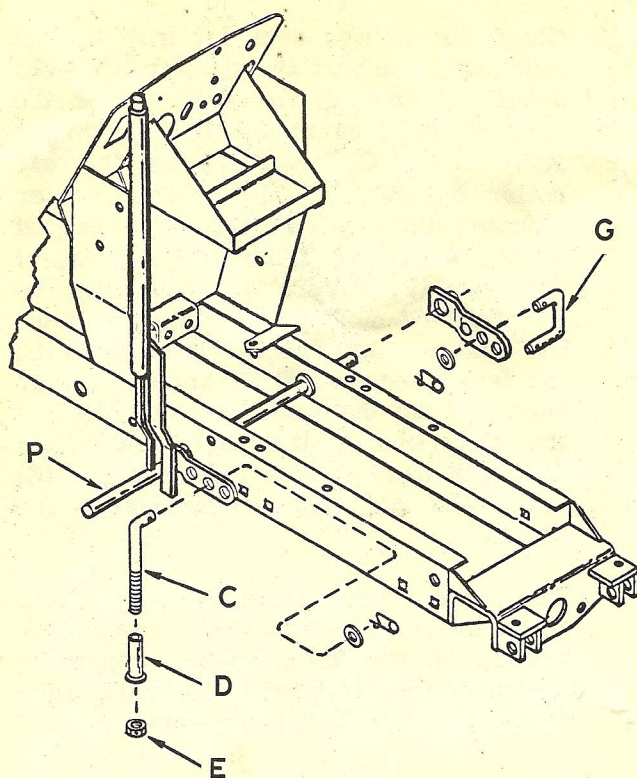
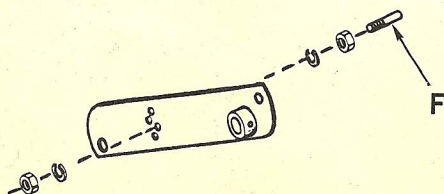

Figure 3. Lift Lever Linkage
Figure 4. Roller Height Adjustment Stop
4. For shipping purposes the "L" shaped, right hand hanger link (C, Figure 3) is installed with the drilled end through the mower deck attaching bracket. Remove this rod, insert the shoulder bushing (D) up through the slotted hole in same deck attaching bracket and place the threaded end of the rod down through the bushing. Turn the lock nut (E) part way on to hold the rod in position until further adjusted as covered in paragraph 12.
5. The roller adjustment stop pin (F, Figure 4) is factory installed in the second from the bottom hole of the left roller pivot arm. This location provides roller to ground engagement for mowing height up to two inches. If a different maximum cutting height adjustment is desired, refer to paragraph 4 under "Adjustments" for proper mounting hole and relocate the stop rod accordingly. Refer to "Adjustments" for further explanation on the roller adjustment stop pin.
7. Connect the "L" shaped and "U" shaped hanger links (C and G, Figure 3) to the center holes in the tractor lift lever arms and secure with plain washers and safety pins furnished.
11. Check the belt tension on either side, midway between the idler pulleys and deck pulley. Recommended tension is approximately 5 pounds at $3/8$ " deflection. Turn the adjusting nut (M) further on or off the adjusting rod as necessary to obtain proper belt tension.
12. Check the mower deck for side to side levelness. Adjust the tractor lift lever J-bolt by turning the wing nut so the deck is being carried on the two hanger links (C and G, Figure 3) and the rear roller assembly. The inboard center mounted anti-scalp roller should be just off the floor, and the roller adjustment stop pin (F, Figure 4) should not be touching the deck plate. Then measure the distance between the left end of the lift lever cross shaft (P) and the mower deck. Take the same measurement at the right end of the shaft, and adjust the right hand hanger link lock nut (E) until both rod end measurements are identical.
4. Roller Adjustments (Cont'd). Although four hole settings are provided for the stop pin (F, Figure 4), only the upper three are used for normal mowing conditions. The factory setting at the second from the bottom hole will provide roller ground contact at most commonly used lawn mowing heights and also provide adequate ground clearance while in the transport position. The bottom hole setting is not intended to be used on mowers mounted on the Model 195 Compact Tractor.
2. Deck "Level" - Side to Side. To check for side to side levelness, the mower deck must be set at normal cutting height and be fully supported by the two hanger links (C and G, Figure 3) and the rear roller assembly. The inboard center mounted anti-scalp roller should be just off the floor, and the roller adjustment stop pin (F, Figure 4) should not be touching the deck plate. Then measure the distance between the left end of the lift lever cross shaft (P, Figure 3) and the mower deck. Take the same measurement at the right end of the shaft and adjust the right hand hanger link lock nut (E) until both rod end measurements are identical.
4. Roller Adjustments. There are four mounting holes in the left roller pivot arm. The roller adjustment stop pin is installed in the second from the bottom hole in the pivot arm. The implement lift lever wing nut should be adjusted so the stop pin (F, Figure 4) contacts the deck plate. This will provide a cutting height of up to 2" before the stop pin contacts the deck plate. Above this cutting height, the stop pin will come in contact with the deck plate and raise the roller assembly off the ground.